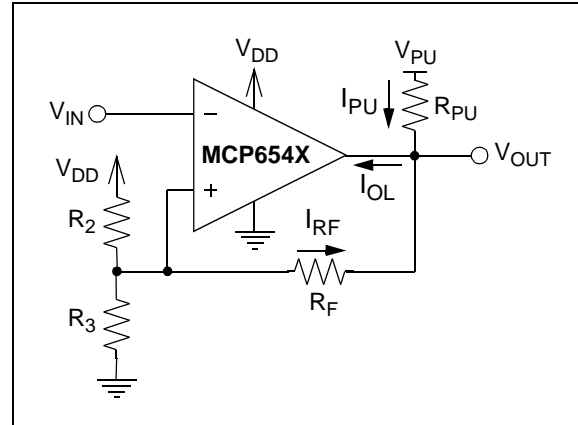
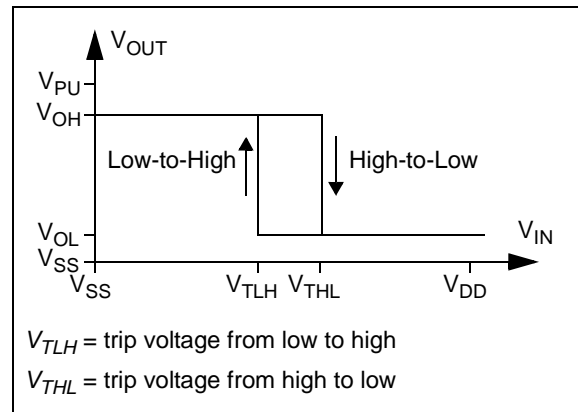
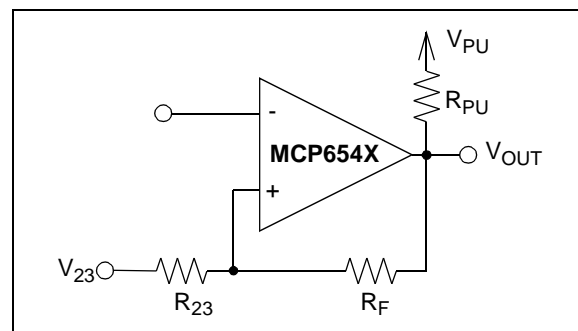

FIGURE 4-4: Inverting Circuit with Hysteresis.
FIGURE 4-5: Hysteresis Diagram for the Inverting Circuit.
FIGURE 4-6: Thevenin Equivalent Circuit.
Figure 4-4 shows an inverting circuit for a single-supply application using three resistors, besides the pull-up resistor. The resulting hysteresis diagram is shown in Figure 4-5.
In order to determine the trip voltages (V_{THL} and V_{TLH}) for the circuit shown in Figure 4-4, R_2 and R_3 can be simplified to the Thevenin equivalent circuit with respect to V_{DD} , as shown in Figure 4-6.
Figures 2-21 and 2-24 can be used to determine typical values for V_{OL} . This voltage is dependent on the output current I_{OL} as shown in Figure 4-4. This current can be determined using the equation below:
- For the Inverting Configuration (Figures 4-4 and 4-7):